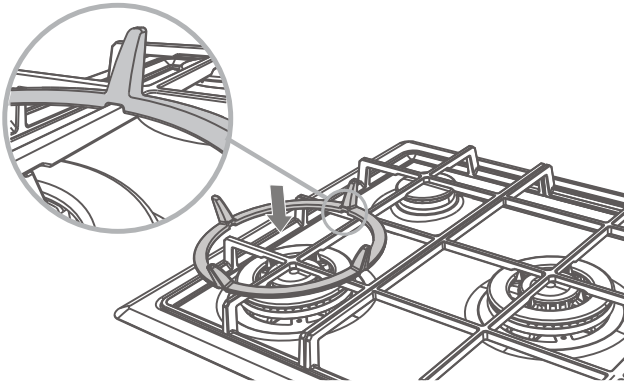

Fig.18 Using wok stand on CG905DWFC and CG604DWFC models (not supplied but purchased optionally for CG905DWAC models)
- On CG604DWFC and CG905DWFC models, a wok must always be used with the wok stand supplied. See Fig.18.